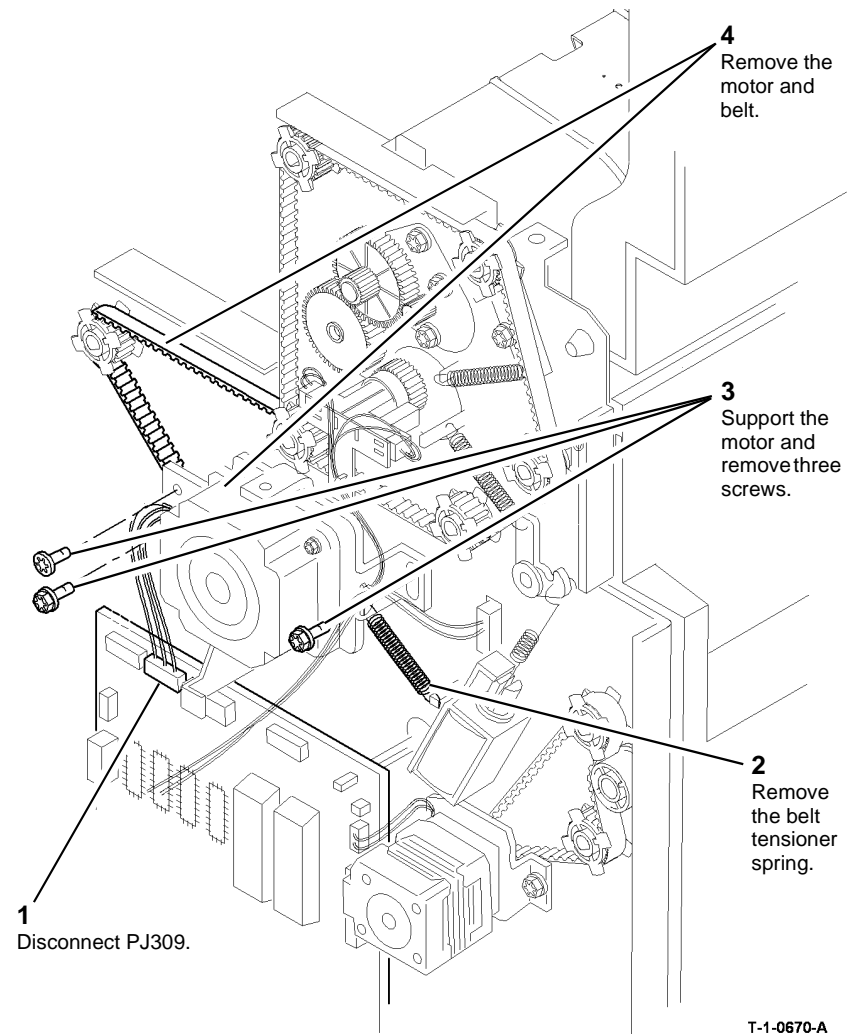

Figure 1 Removing the drive belt
3. Remove the output drive belt and motor, Figure 1.